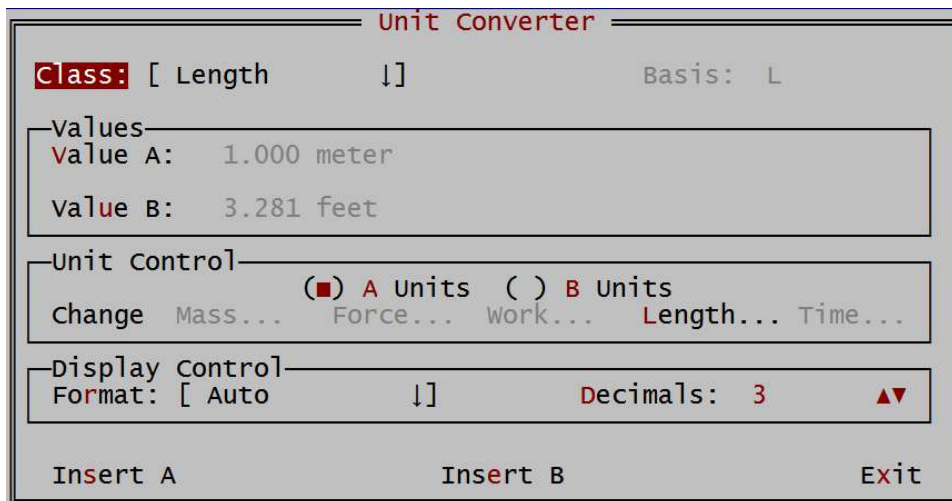
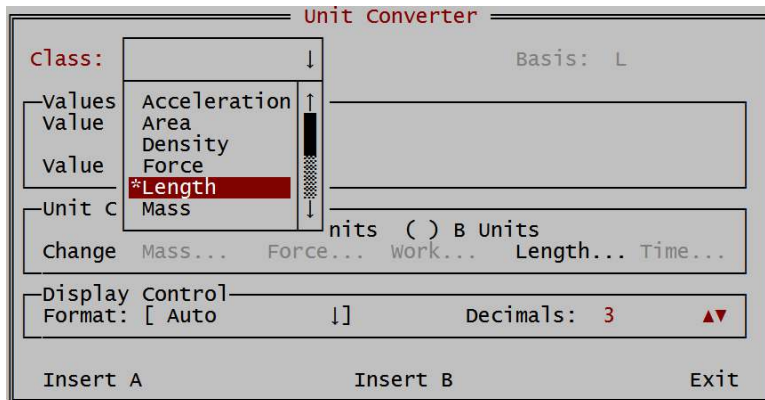

Figure 1. The Unit Converter dialog box lets you quickly and easily convert hundreds of measurements.
Figure 3. Variable arrays make it easy to create custom drop-down lists in dialog boxes, such as the Class drop-down list shown here.
You can run the macro from any document screen. Press Play Macro (Alt+F10), type *unitconv*, press (Enter) and the Unit Converter dialog box shown in Figure 1 above appears on your screen. You'll first press (C) Class and choose one of the 12 available conversion types: Acceleration, Area, Density, Force, Length, Mass, Power, Pressure, Time, Velocity, Volume or Work. For now, highlight Area and press (Enter). Notice that the Basis text box now displays an L2 symbol, indicating "length squared."
UNITCONV.WPM is not a particularly easy macro to understand, so I'm going to spare you the laborious line-by-line exegesis. What may be beneficial, however, is to discuss how this macro uses arrays to create drop-down lists in a dialog box (see Figure 3 below). From the discussion, you'll learn how to add drop-down lists to macros of your own.
Whenever you use a CtrlDropList! or CtrlList! control type, you must always define the array before you can use it in the dialog box. In this case, the array was defined on line 4. So, when the dialog box displays (see Figure 1), if you choose the Class drop list, the macro displays the list of items in the Class array defined on line 4 (see Figure 3).
Arrays such as this are useful when you want to pair up lists of information. For example, compare the Class array on lines 4-5 with the ClassBasis array on line 6. The M corresponds with Mass, the F corresponds with Force and so on. If you chose Mass from the drop list in Figure 3, Class would equal 1. Therefore, *ClassBasis[Class]* (or *ClassBasis[1]*) would be M. Notice that this is exactly what the macro does on line 28 to update the class basis in the dialog box (compare Figures 1 and 3).